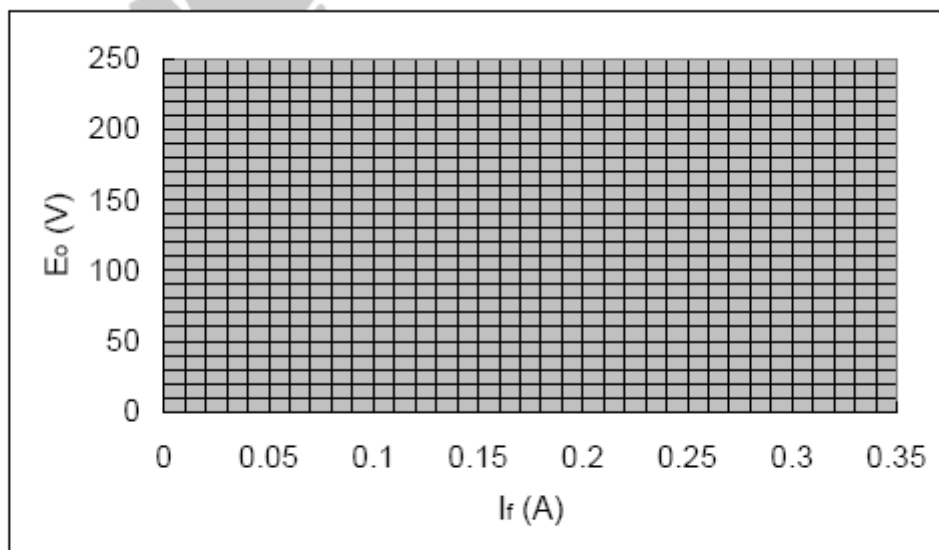

Fig. 15-2-3 The E_o vs I_f curve
10. Using the results of Table 15-2-1, plot the E_o vs I_f curve on the graph of Fig. 15-2-3.